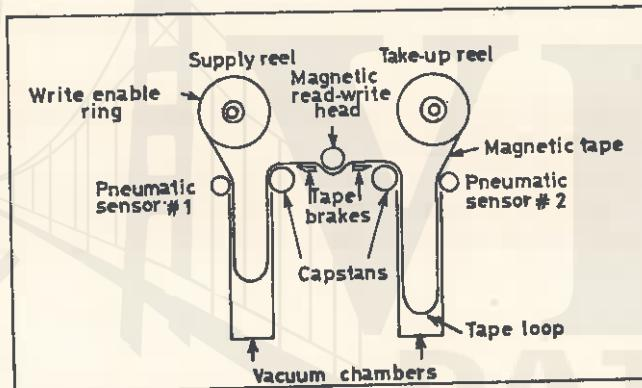

Fig. 36.10. Vacuum-operated magnetic tape drive.
- Several methods, all quite similar, are used to drive the *tape* past the *read-write* heads and to permit the tape to be started and stopped quickly. A vacuum operated tape unit is shown in Fig. 36.10.
- As shown in Fig. 36.10 the tape runs from a supply reel to a take-up reel via two vacuum chambers and the read-write head. The two vacuum chambers are designed to take up slack tape, acting as buffers to prevent the tape from snapping or stretching when starting from a stationary position or slowing down from full speed.